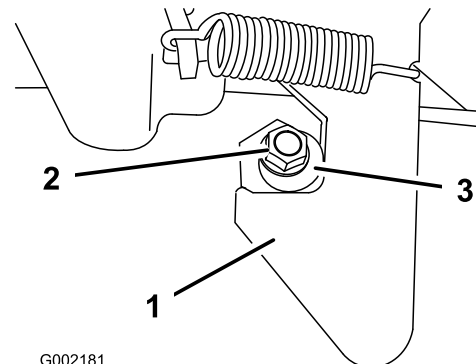

Figure 19
1. Loosen the nut on the end of the latch post (Figure 19).
- Turn the latch post clockwise until it is snug against the latch and then tighten the nut (Figure 19).